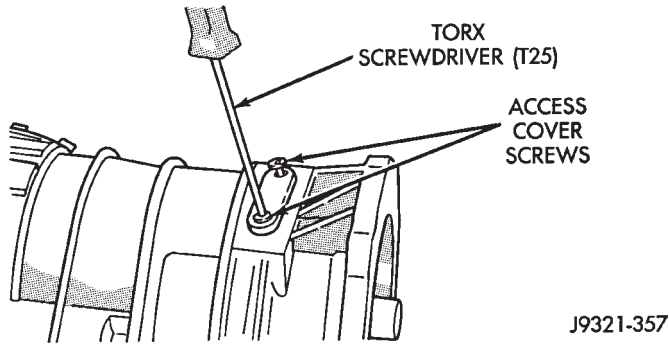

Fig. 243 Locating Ring Access Cover And Gasket Installation
(10) Install locating ring access cover and gasket in overdrive unit case (Fig. 243).